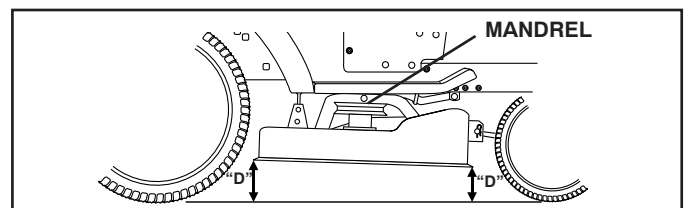

Fig. 18
**FRONT-TO-BACK ADJUSTMENT** (See Figs. 18 and 19)